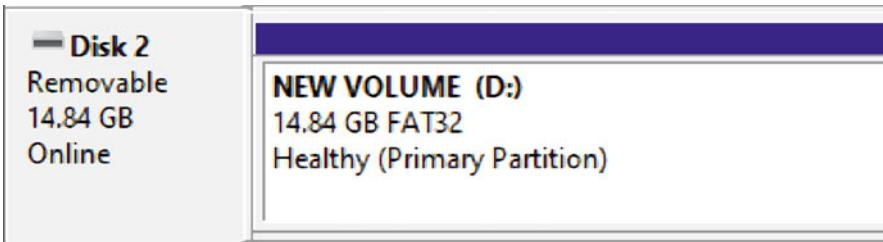

Fig. 11.21: The microSD card with a new single FAT32 partition
- e. Right click on the partition and format with FAT32. The microSD card should now look like a new card with a single 14.84 GB FAT32 partition as in Fig. 11.21.